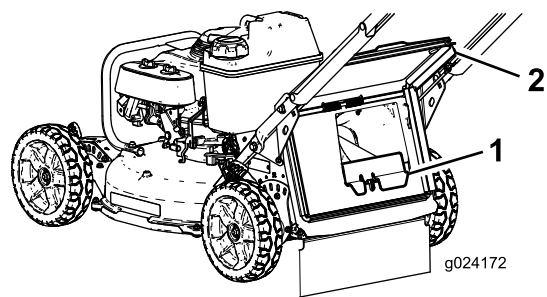

Figure 18
the rear-discharge chute until the latch locks into place (Figure 18).
1. Rear door 3. Notch (2)
2. Bag-rod end (2)
3. Remove the rear-discharge plug by pushing in the latch with your thumb and pulling the plug out from the machine (Figure 18).